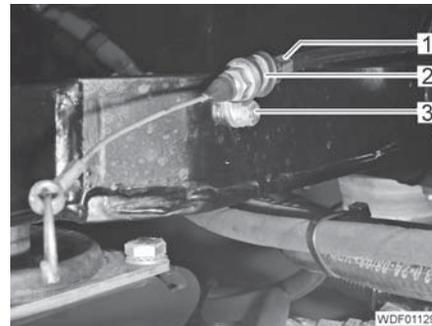

Fig. 415 Bowden cable attachment
- Unscrew the screw (Fig. 415,3).
- Remove the clamp (Fig. 415,2).
- Detach the Bowden cable (Fig. 415,1).
- Place the Bowden cable (Fig. 415,1) in position.
- Place the clamp (Fig. 415,2) into position.
- Screw in and tighten the screw (Fig. 415,3) with the spring lock washer and washer.